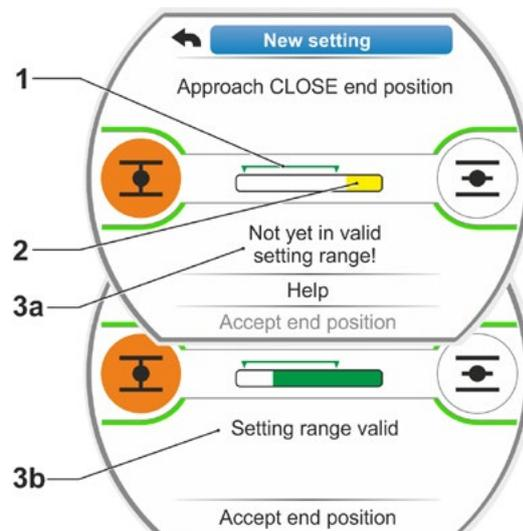

Fig. 10: Approach end position CLOSED in travel dependent cut-off mode
Display indicates whether the valid setting range (fig. 10, item 1) has been reached (3b) or not yet (3a) and the progress bar (2)* changes the color from yellow to green.